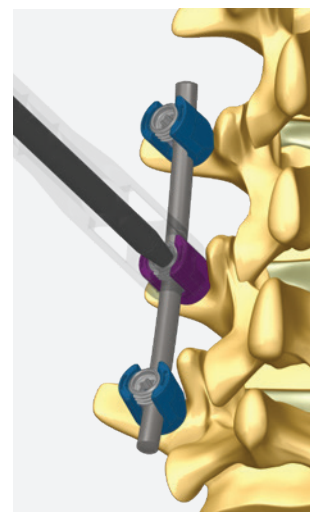

Figure 18A
- Final lock by inserting the counter-torque tube (O2-C-TORQUE) over the pedicle screw and down onto the rod (Figure 18A). Insert the final driver attached to the torque-limiting handle and engage the set screw. Holding the counter-torque tube in place, rotate the handle clockwise (Figure 18B) until it emits an audible or tangible “click.” Remove all instruments and final lock all remaining set screws.